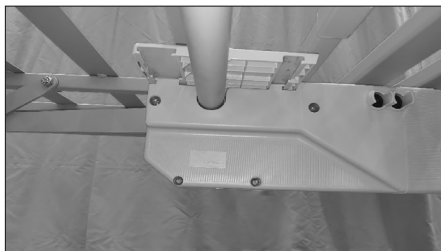

Fig.12
3. Close the mechanism compartment with the covers, sliding them to the side, taking care not to detach the motor from the sections (Fig.12)